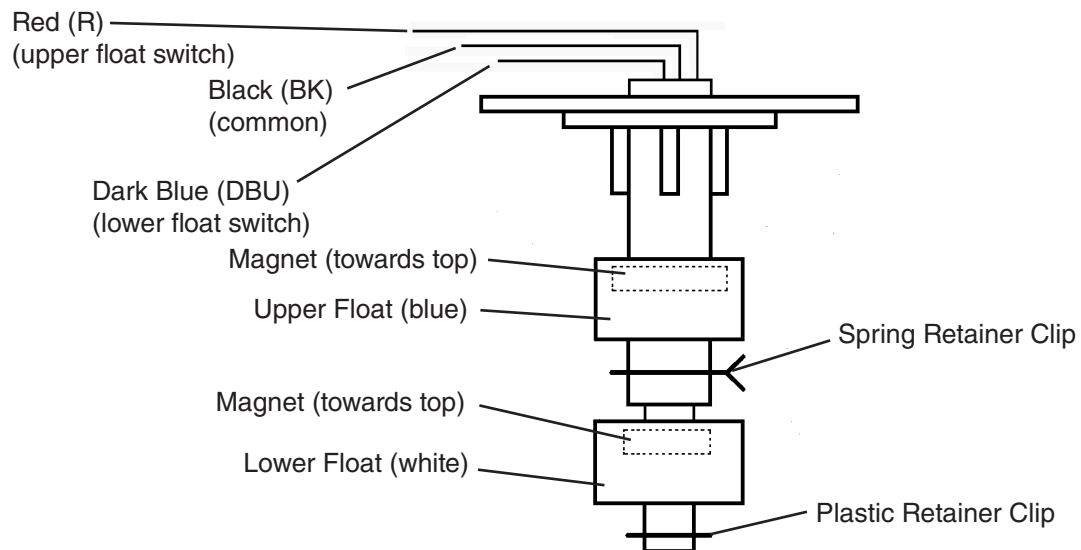

Fig. 7
- 4) Remove the bell connectors from FS black (BK), dark blue (DBU), and red (R) wires. Check for open continuity between black (BK) (common) and red (R) (UFS) and between black (BK) (common) and dark blue (DBU) (LFS). If both are open, continue to step 5. If either are closed, follow the steps in "II.E.2. Float Switch Cleaning." After cleaning FS, check UFS and LFS again. Replace if necessary. See Fig. 7.
- 5) Cap the FS (BK), (R), and (DBU) wires from the control box.
- 8) Check FS continuity again. Both UFS and LFS should be closed. Check for closed continuity between black (BK) (common) and red (R) (UFS), and between black (BK) (common) and dark blue (DBU) (LFS). If either are open, follow the steps in "II.E.2. Float Switch Cleaning." After cleaning FS, check UFS and LFS again. Replace if necessary.
- 9) Reconnect the FS wires to the appropriate appliance wires. (BK) to (BK), (R) to (R), and (DBU) to (DBU).
- 4) While not necessary, the floats can be removed from the shaft during cleaning. If you remove them, note that the blue float is on top. The floats must be installed with the magnets inside them towards the top of the switch. See Fig. 7. Installing the floats upside down will affect the timing of the float switch operation.